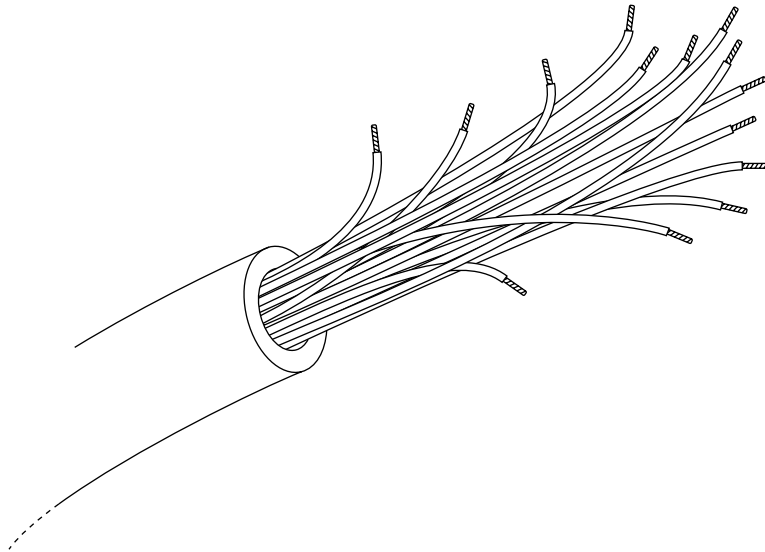

FIGURE 11-4: Strip away outer insulation; strip and “tin” the ends of the wires inside.
4. Strip $\frac{1}{4}$ " off the end of each of the inner wires you intend to use to make your connections. Tin the wire ends (see Chapter 8, Figure 8-21). The cable is now ready (see Figure 11-4).